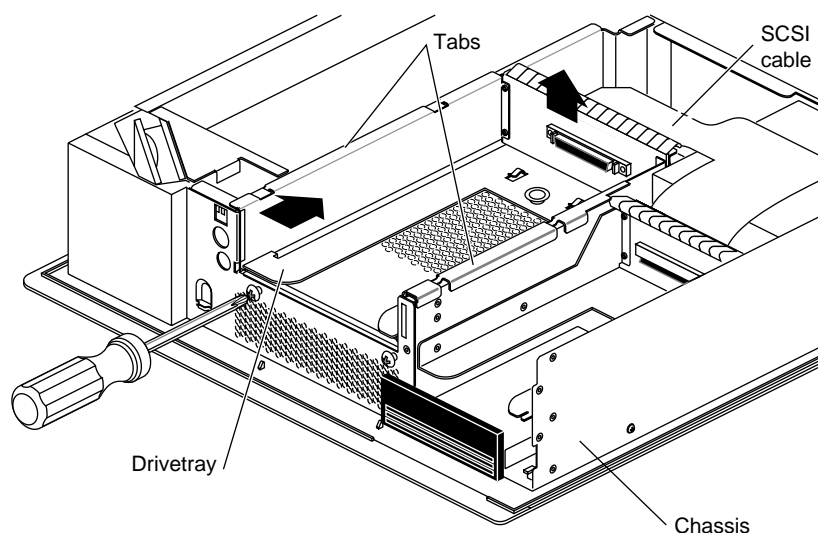

Figure 3-8 Disconnecting the SCSI Cable
5. Disconnect the SCSI cable, power cable, and twisted-pair cable to allow yourself better access to the SIMM slots. See Figure 3-8.